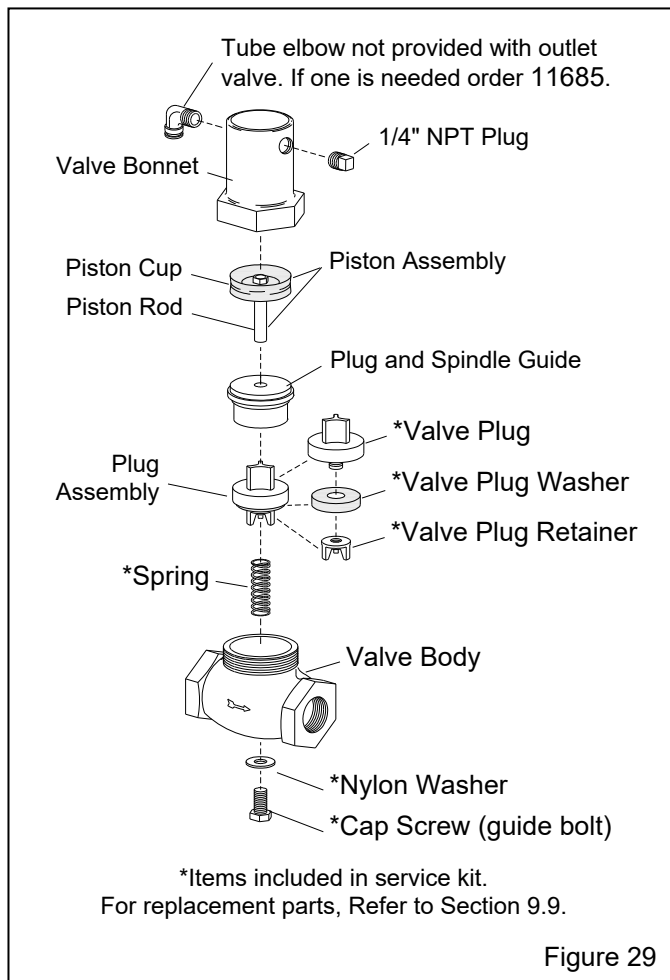

Figure 29
7.10 Piston Outlet Valve – Figure 29